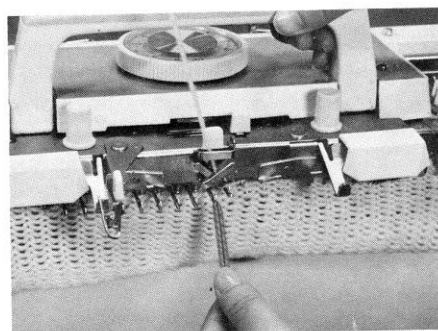

Fig.106
- b) Cut a strand of embroidery thread and fold it in half, then hook the fold over the first selected needle (Fig.106). Continue to move the carriage to the left to complete this row.